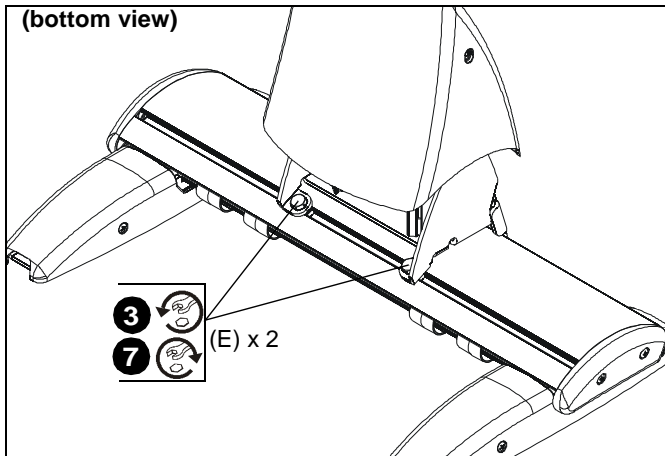

Figure 35
- Loosen two 1/4-20 x 5/8" hex head cap screws (E) on underside of mounting bracket. (See Figure 35)